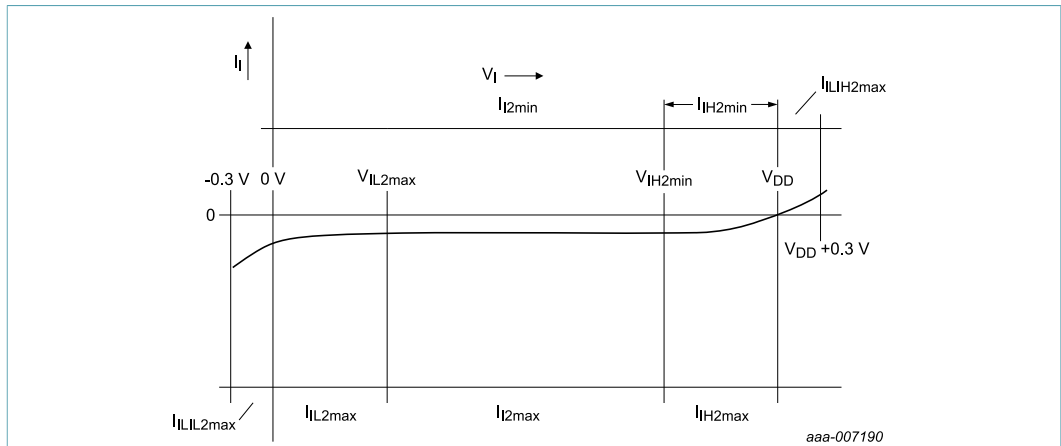

Figure 8. Input characteristic of CLK during IC reset
- [2] The CLK input internally has a resistive pull-up device to VDD activated during IC reset. Accordingly a current is flowing out of the pad at voltages below VDD. Figure 8 shows this input characteristic.